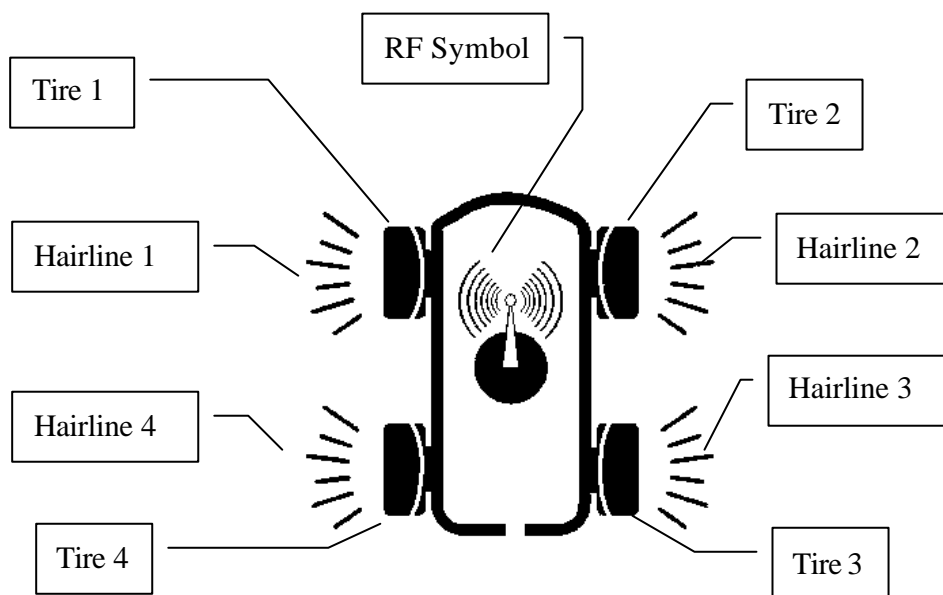

Figure 3 Detail description of Status displayer
**Status displayer:** display communication condition with all tires graphically. Figure 3 shows detail symbols of Status Displayer and their names in this manual.